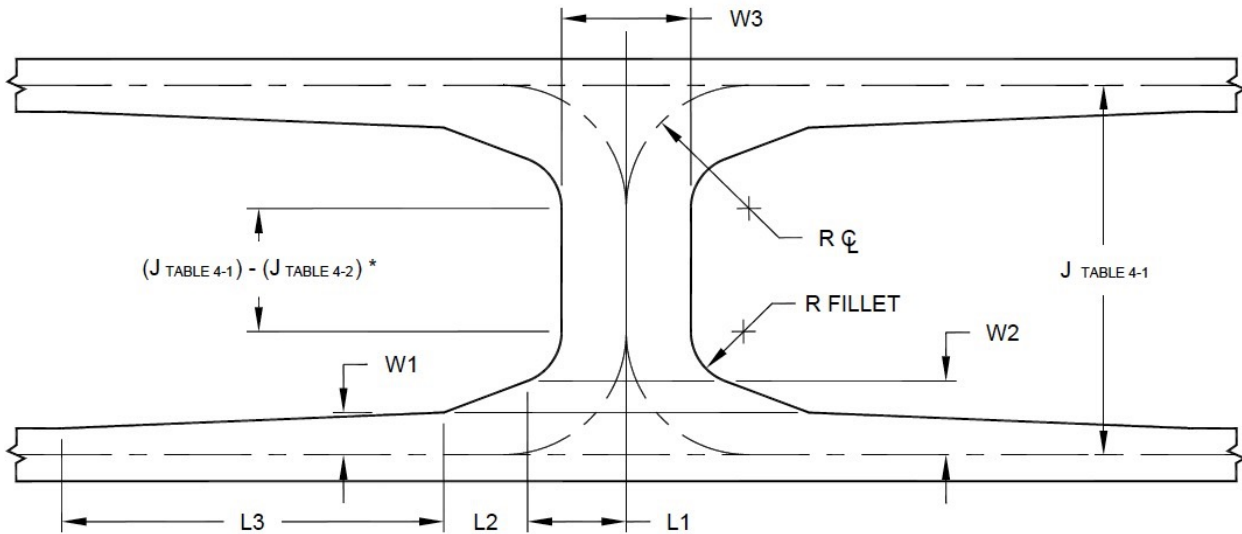

Figure 4. General Layout of a Crossover Taxiway (source: FAA AC 150/5300-13A Figure 4-16).
- Specify (**do not draw**) the dimensions of a crossover taxiway shown in Figure 4 using the FAA taxiway design methods contained in Chapter 4 of the Advisory Circular 5300-13A. The critical aircraft is the Boeing 747-8i. Specify all dimensions shown in Figure 4 considering the critical aircraft operating at the airport.